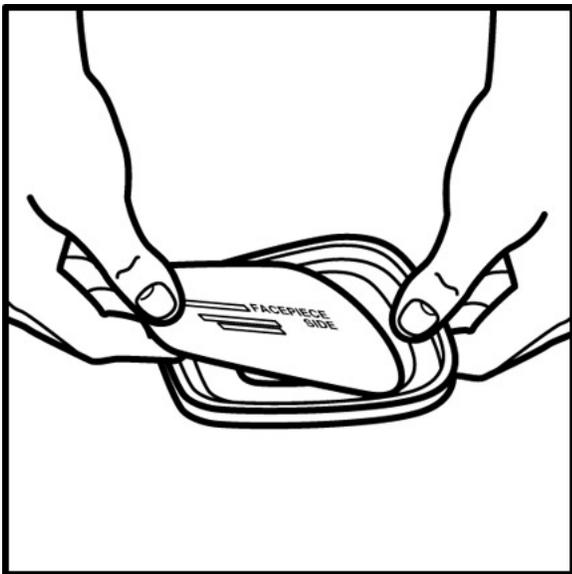

Fig. 1
1. Place the 3M™ 5P71 (07194) Filter into the 3M™ 501 (07054) Filter Retainer so the printed side of the filter faces the cartridge. (Fig. 1)